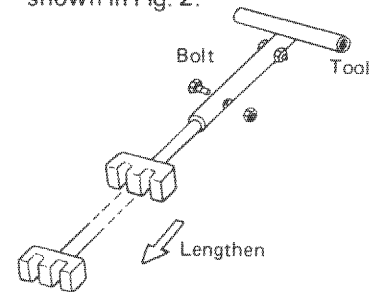

Fig. 2
3. The tool is inserted through the hole for reversing on the left side of the radiator guard. If it contacts the blade cylinder, move the bolt to lengthen the tool as shown in Fig. 2.